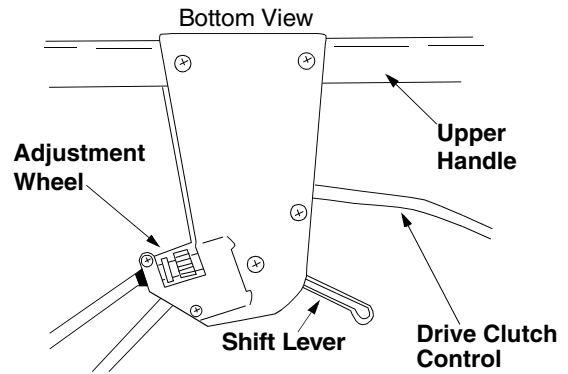

Figure 13
- To resolve the above problems, rotate the adjustment wheel with your fingers: clockwise to tighten the cable and counter-clockwise to loosen the cable. See Figure 13.
- Start engine and place shift lever in the sixth speed position. Refer to Figure 13.